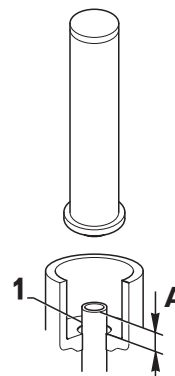

FIG. 4-2b
- Adjust oil suction pipe to measure "A" (A = 26 mm) (Fig. 4-2b).